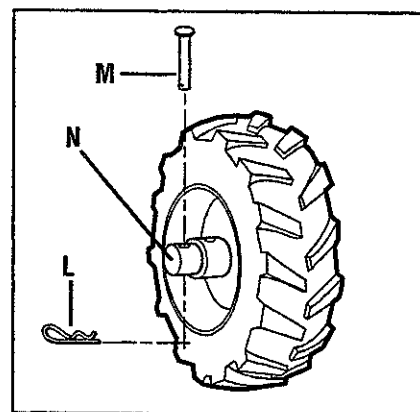

Fig. 2-3: Wheel in FREEWHEELING position (wheel drive pin through wheel shaft only).
2. Remove the hairpin cotter (L, Fig. 2-3) and wheel drive pin (M). Slide the wheel inward on the wheel shaft (N). Reinstall the wheel drive pin through the wheel shaft only (not through the wheel hub) and secure it with the hairpin cotter (push hairpin cotter in as far as it will go). Repeat with the other wheel.